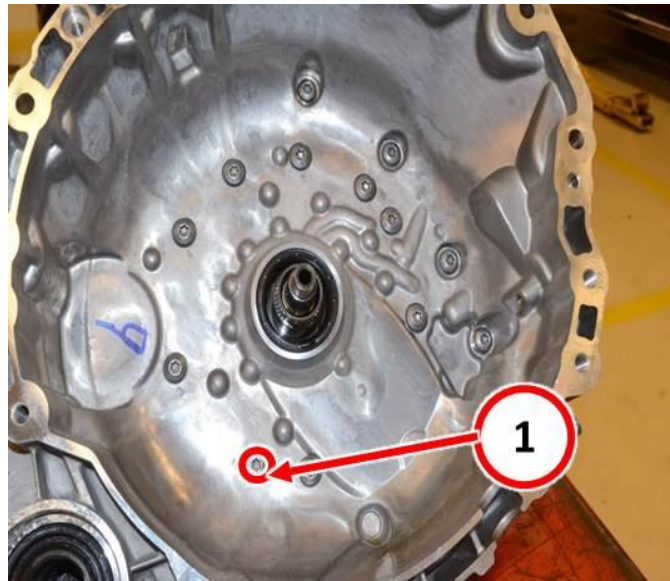

Fig. 16 OPSA Retaining Bolt
48. At the bellhousing assembly, remove bolt #2 taking care not to allow the OPSA and E-clutch assembly drop away from the bellhousing. See (Fig. 16).